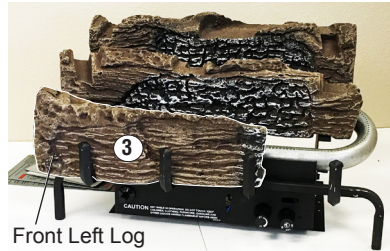

Figure 34 - Install Front Left Log
3. Align the notches in the front left log (#3) against the three corresponding grates as shown in *Figure 34*.